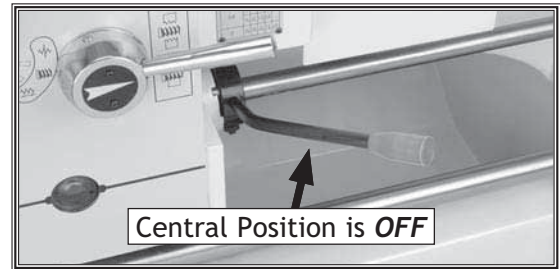

Figure 14. Spindle rotation **ON/OFF** lever.
3. Move the spindle rotation **ON/OFF** lever to **OFF** (see **Figure 14**).
8. Move the **Spindle Rotation ON/OFF** lever (**Figure 14**) up or down so the chuck turns.